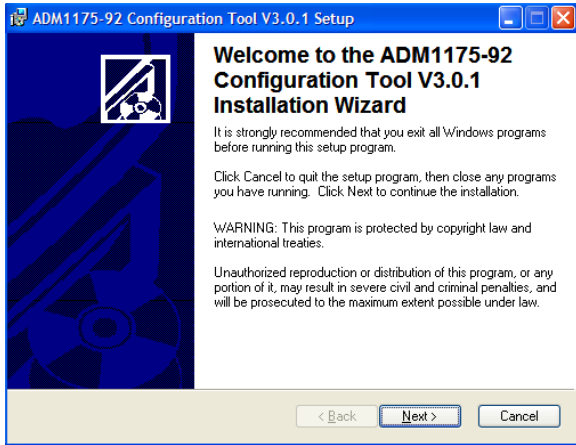

Figure 4. Evaluation Software Installation Wizard
3. Double-click **setup.exe**. The **Installation Wizard** window appears (see Figure 4).